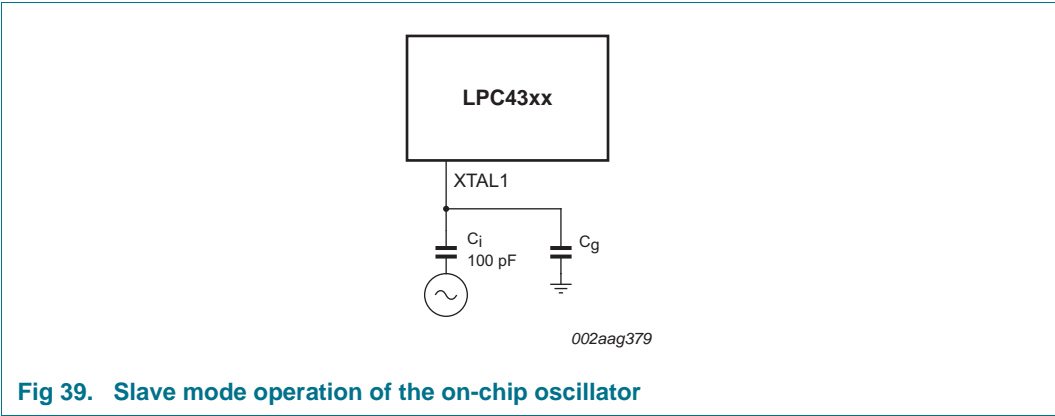

Fig 39. Slave mode operation of the on-chip oscillator
- In slave mode the input clock signal should be coupled by means of a capacitor of 100 pF (C_C in Figure 39), with an amplitude of at least 200 mV (rms). The XTAL2 pin in this configuration can be left unconnected.